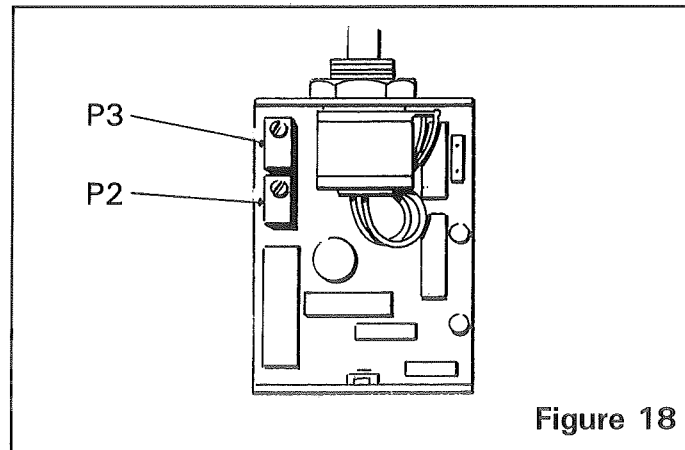

Figure 18
To match the rotor and/or agitator speed control dial on the in-cab control box to the valve bank (*item 2, figure 16*), it is necessary to adjust the variable preset potentiometer on the control card mounted beneath the dial (*see figure 18*). Ensure the proportional valve control knob (*item 9, figure 16*) is set at '10'.
With the rotor/agitator running and the in-cab control box speed control dial turned to '1', adjust the screw marked 'P2' (*see figure 18*) to decrease the speed until the rotor/agitator is just running.
With the rotor/agitator running and the in-cab control box speed control dial turned to '10', adjust the screw 'P3' (*see figure 18*) to increase the speed until the rotor/agitator is running at maximum.